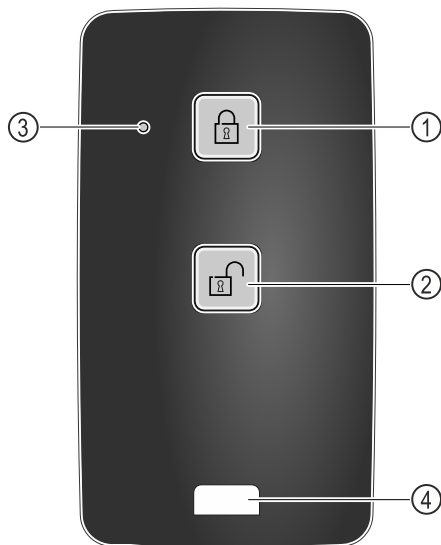

Fig. 249
- (1) Engage lock
- (2) Unlock lock
- (3) Status LED
- (4) Fastening eyelet
- ▶ Press button Fig. 249 (1) on the remote control.
- ▶ Press button Fig. 249 (2) on the remote control.
- ▶ Status LED Fig. 249 (3) provides a visual acknowledgement when you press the button.
- ▶ Eyelet Fig. 249 (4) for attaching remote control, for example, to a key ring.